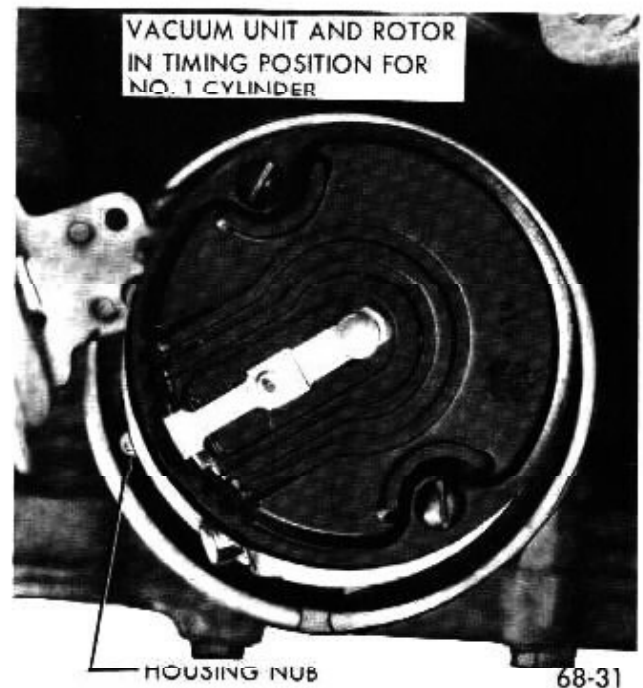

Figure 68-31 - Installing Distributor in Engine - V-8 Engines
2. Make a mark on distributor base in line with center of rotor. Then carefully note the direction the vacuum unit points in relation to the engine so that the distributor can be replaced in the exact same position after it is serviced. See Figure 68-31.